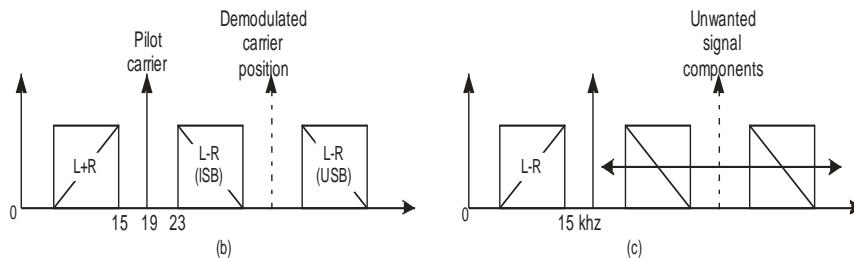

FIG.3.7
- ❖ The figure 3.7 shows the block diagram of FM broadcast receiver.